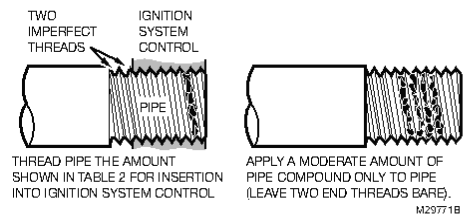

Fig. 4. Use a moderate amount of pipe compound.
5. Apply a moderate amount of good quality pipe compound, leave two end threads bare. Do not use pipe dope on the outlet. See Fig. 4